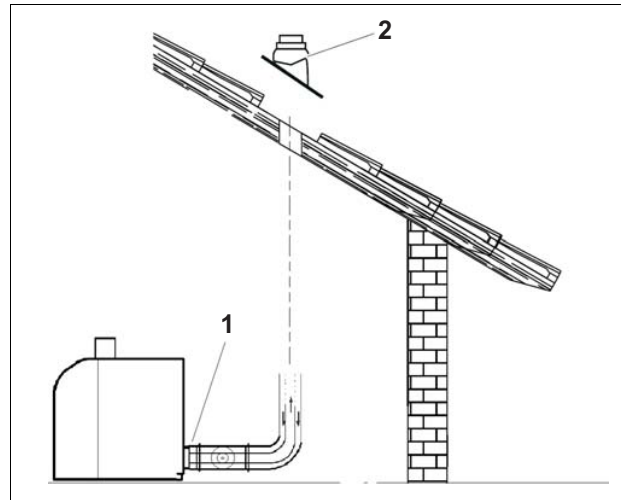

Fig. 6 Creating penetration through the roof
- Select roof tile or shingles above the boiler connector (Fig. 6, **Item 1**) or in a suitable place for the GB125, and remove.
- Cut a 5-1/4" opening in the sheathing. Pay attention to the roof inclination (Fig. 6), and that you may need a larger hole if you don't cut vertically.
- Install universal roof penetration and flashing. Seal properly (Fig. 6, **Item 2**).